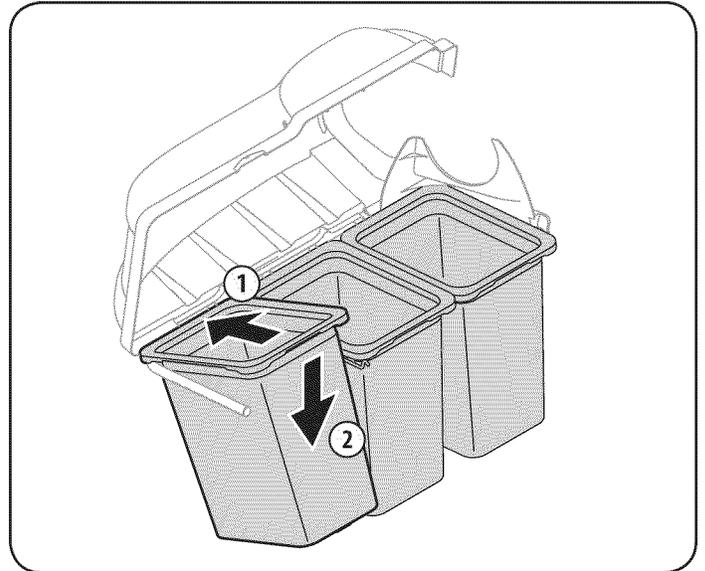

Figure 14
- Install the bag assemblies onto the bag support brackets by inserting the front edge in first, as shown in Figure 14, and setting the back edge down until it fits into the assembly.